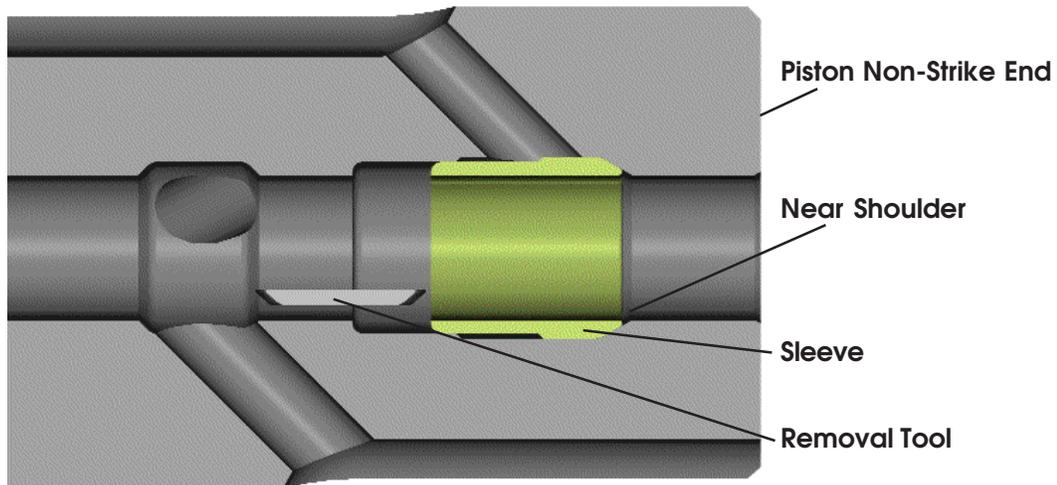

Figure 2-2A
- Lay the piston horizontal on a clean work area. Putting oil in the piston undercut and end bore will make removal of the sleeve much easier. Use your finger or screw driver to move the sleeve, located in the non-striking end, to the near shoulder of the undercut as shown in figure 2-2A. The sleeve has a cut along it, position the cut at the bottom or 6 o'clock position shown in figure 2-2D. Slide the removal tool into the piston to the location shown in figure 2-2A.